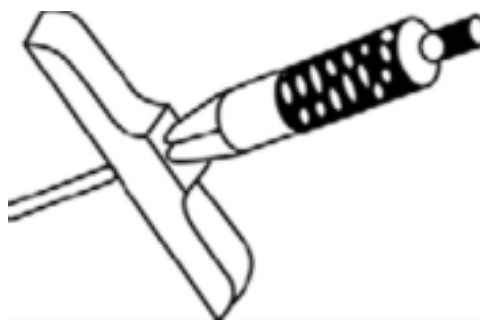

Figure 4-12 Depth micrometer
- 3) Before disassembly the valve train, check the valve sinkage. The valve sinkage is the vertical distance from the valve bottom face to the bottom plane of cylinder head, and the difference between the measured value and required value may indirectly reflect the degree of wear between the valve and the valve seat. The valve sinkage can be measured with a depth micrometer, as shown in Figure 4-12.